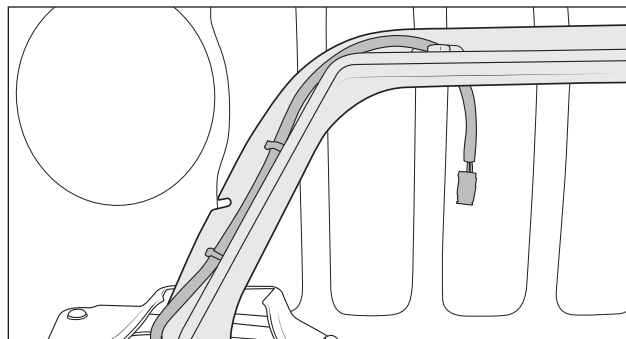

Figure 18
- A. If installing AEV offroad lights or camera relocation kit, route the wiring and sprayer hose, running them along the outside of the thick bracket on the hoop weldment and through the openings in the top of the bumper, and out the back along the frame opening. Use provided fur tree wire ties to retain the wiring and hose along the bracket. Make sure to leave enough slack to connect to mating components (fig. 18). See specific instructions for those kits for additional details.